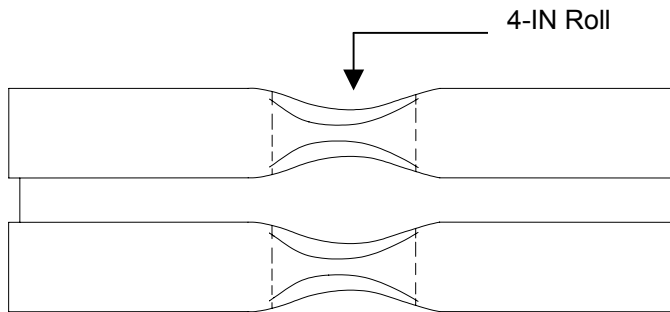

Figure 2. Bridle Straps Formed.
- c. Form a 4-inch roll in the center of each strap. Stitch around the roll and across the center of the roll with size 3 nylon thread (figure 2).